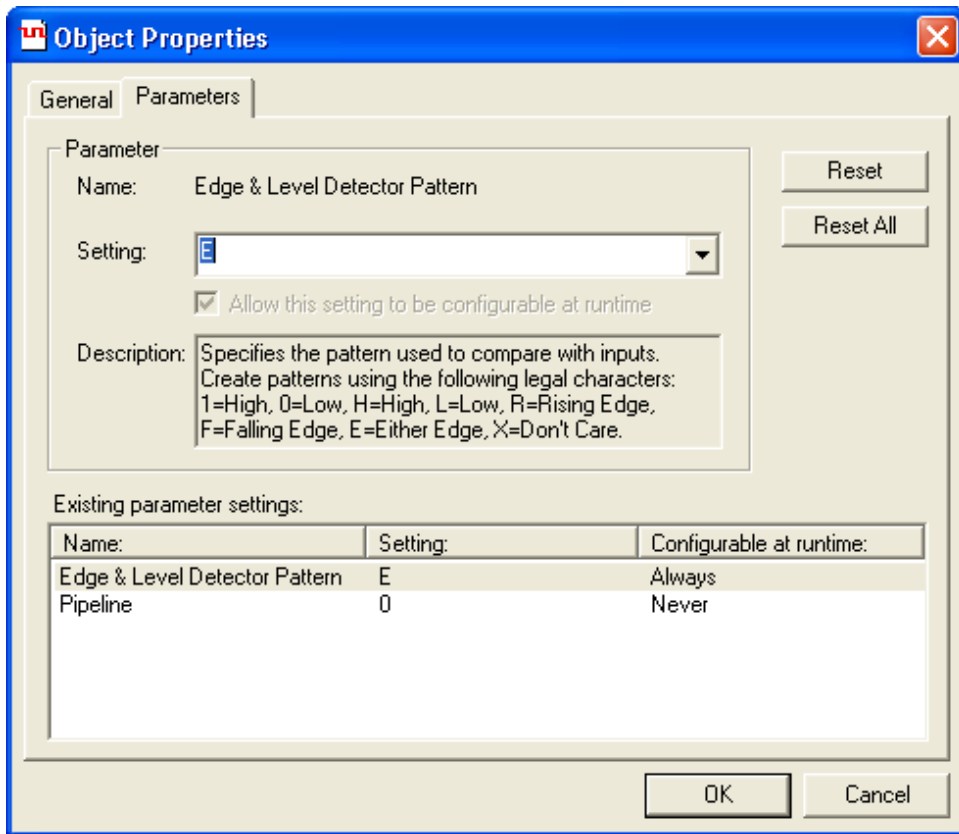

Figure 25. Type E in the setting box so that the function triggers on both rising and falling edges.
7. We now need to set each edge and level detector to sense either a falling edge or a rising edge. Double click one of the edge and level detectors, bringing up the window in Figure 25. Type E in the setting box and then click OK. This will mean that the detector will output 1 whenever there is either a falling edge or a rising edge of its input. Repeat this step for the two remaining edge and level detectors.